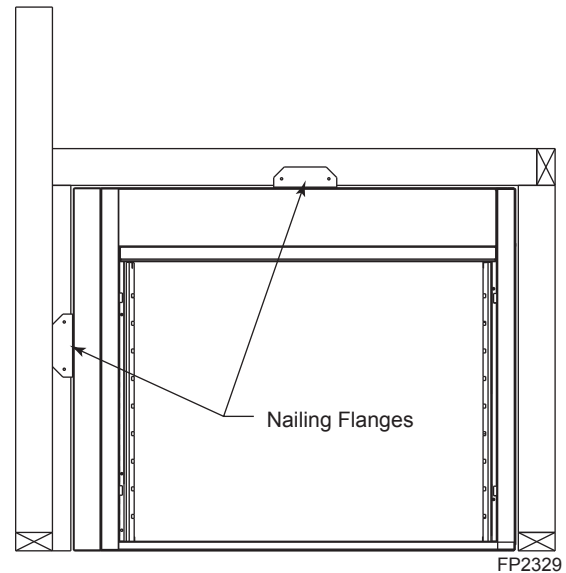

**Figure 10 -
1. Attach nailing flanges in desired position. *Figure 10*